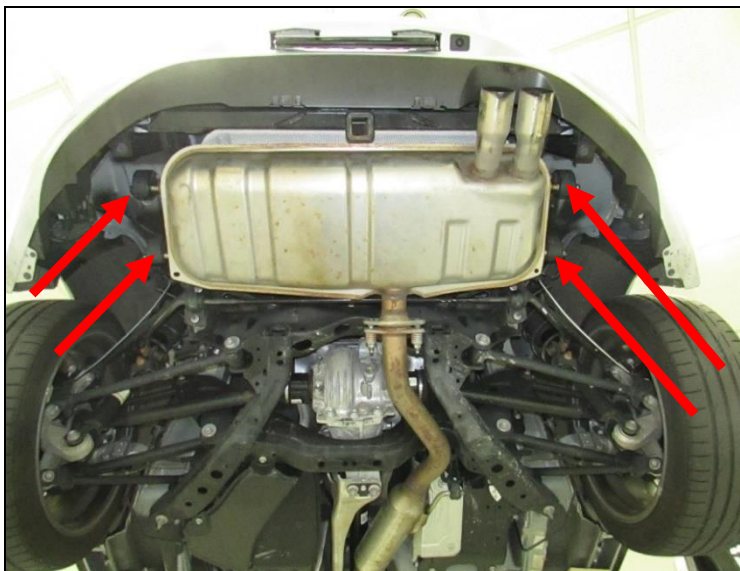

Figure 2
4. Spray the (x4) rubber isolators with lubricant. We recommend using WD-40® or equivalent (**Figure 2**).